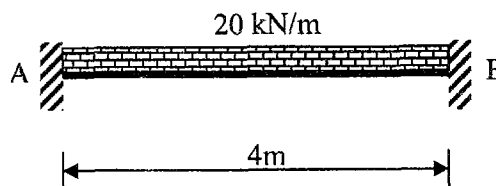

Figure 8(b)
6. [c] Figure 8(c) shows a continuous beam carrying a point load of 36 kN at a distance 6m from support A and uniformly distributed load of 12kN/m on span CD. Find the value of collapse moment, M_p if the load factor, $\lambda_p = 1.7$.